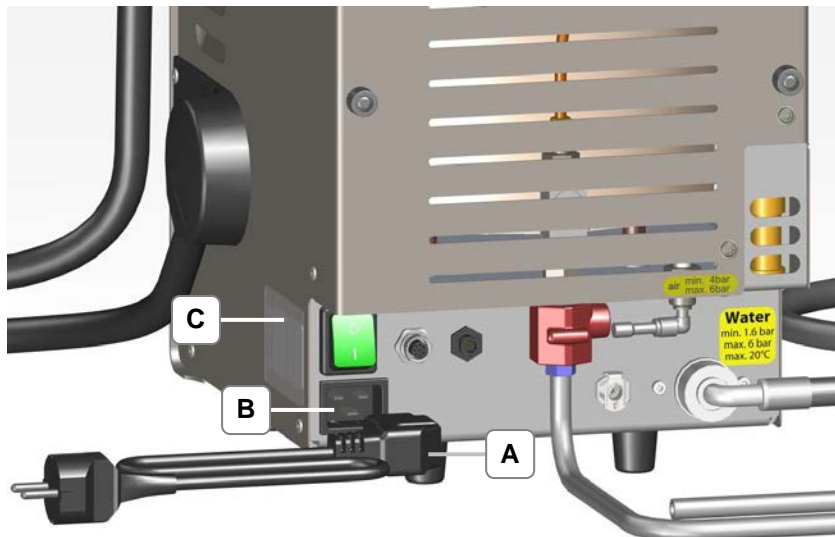

Figure 4.1.1.1: Mains Supply Cable
1. Connect the mains supply cable (Figure 4.1.1.1-A) to the connector (Figure 4.1.1.1-B).